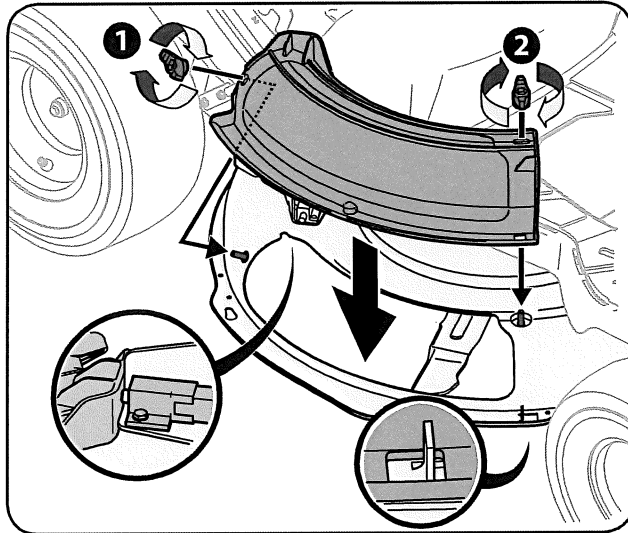

Figure 3-10
2. Install the mulch plug into the deck discharge opening on the deck. The studs on the deck surface will fit through the holes on the upper portion of the mulch plug. The small tab on the deck lip area will fit through the square cutout on the lower portion of the mulch plug. See Figure 3-10.